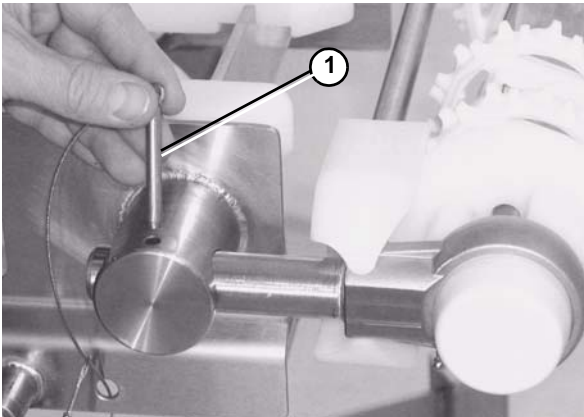

Figure 58
5. Remove the pull pin (**Figure 58, item 1**).
1. Remove the pull pins from take up blocks (**Figure 58**).